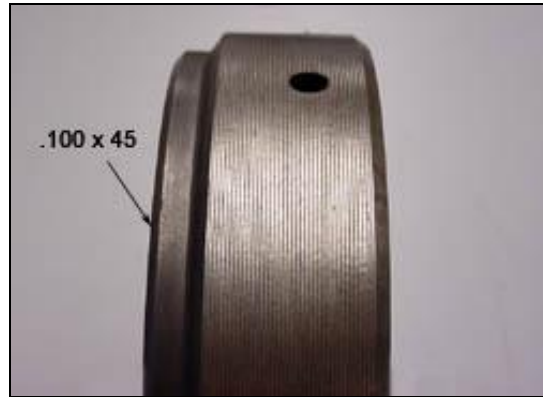

FIGURE 2: FORWARD DRUM DESIGN
- A. Have the edge on the Forward Drum machined with a larger chamfer (see Figure 2) to allow proper clearance or,
- B. Use a later model Forward Drum. (See Figure 2)
NOTE: If drum chamfer is .050" x 45 deg., this is not enough clearance! Either machine the chamfer per Figure 2 or, locate another drum with the correct clearance.